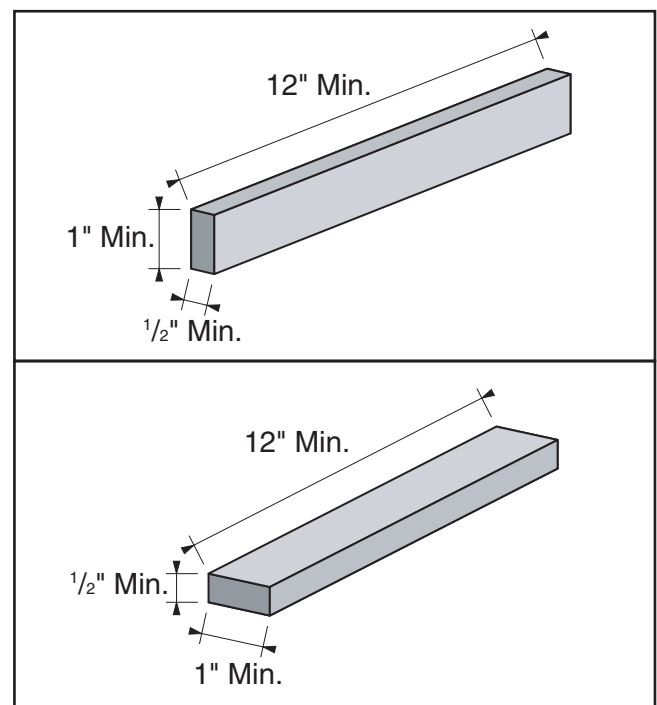

Figure 40. Minimum stock dimensions for the jointer.
- **Make sure your workpiece exceeds the minimum dimension requirements, as shown in Figure 40, before processing it through the jointer, or the workpiece may break or kickback during the operation.**